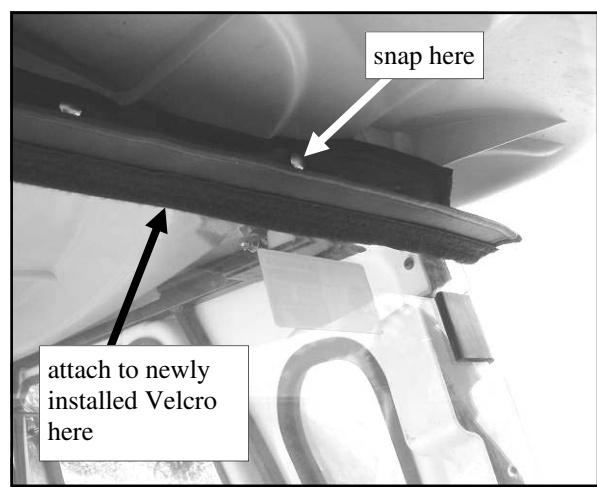

Fig. 3.7 (view from front)
3.7 Per fig. 3.7, attach the fabric front draft barrier to the five snaps, then to the newly installed short pieces of hook velcro on the top curved portion of the tubing, and finally to the long strip of velcro along the under side of the bend in the top of the windshield.